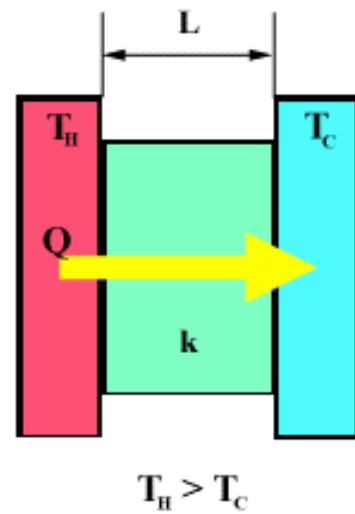

Fig. 2 Conduction, single layer
The rate at which heat gets transferred (see Figure 2) depends upon (1) the thickness of the material  $L$ , (2) the thermal conductivity  $k$  (this depends on the composition of the material), (3) surface area of the material  $A$ , and 4) the temperature difference between the reservoirs. If you understand the description above, this makes sense. If the wall is thicker, then it will take longer for the energy to get from one side to the other. If there is more surface area, then there are more collisions and paths for the heat to flow, which will increase the rate of heat flow. If the temperature difference is greater, then there will be more energy to flow across the material.